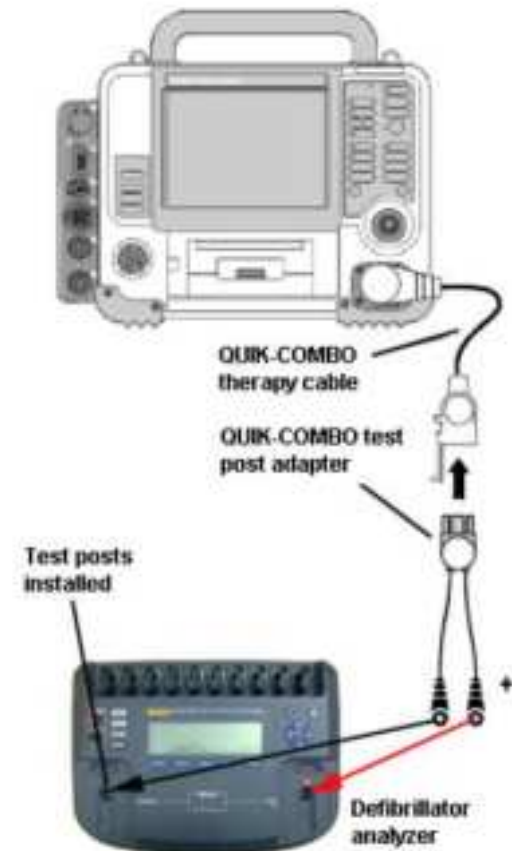

Figure 1.40—QUIK-COMBO delivered energy test setup
1. Connect the therapy cable between the device and defibrillator analyzer as shown in Figure 1.40.